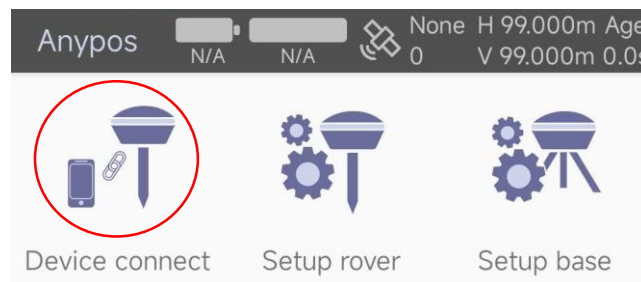

Figure 4-2 Device connect module in Device page
- (1) Power on the G1000.
- (2) On your mobile device, open the Anypos App.
- (3) Navigate to the Device page and tap Device connect, as shown in Figure 4-2.